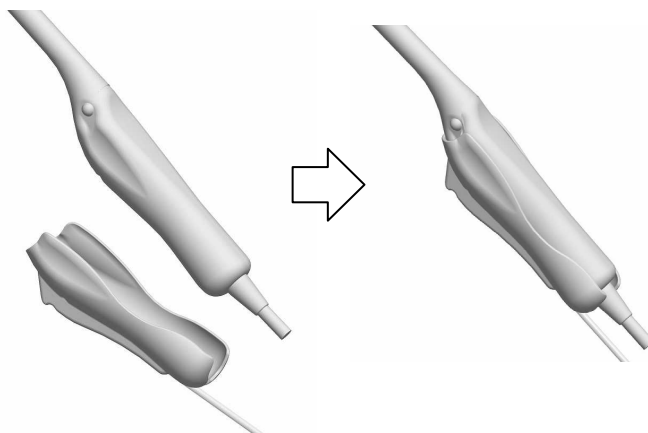

Fig.8 How to attach the Magnetic Sensor Attachment
- 3) Attach the Magnetic sensor attachment to the probe as shown in Fig.8.